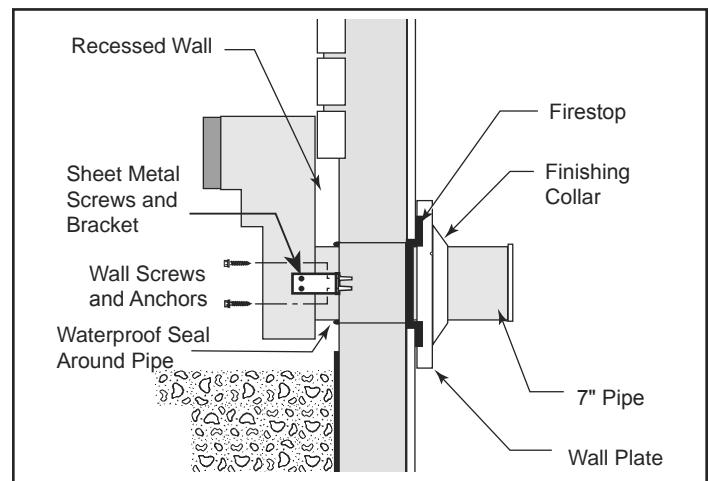

Figure 34 - Use extension brackets to mount snorkel against recessed wall.
7. If the foundation is recessed, use extension brackets (not supplied) to fasten the lower portion of the snorkel. Fasten the brackets to the wall first, and then fasten to the snorkel with self-tapping #8 x 1/2" sheet metal screws. Extend the vent pipes out as far as the protruding wall face. (Figure 34)